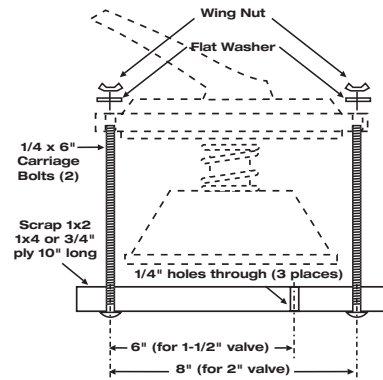

Fig. 1 - Fixture dimensions for valve spring compressor
5. Compress plug as shown in figures 1 and 2.
8. Reassemble plug, cover, and handle by compressing spring (see figs. 1 & 2) and reversing procedure on previous page.